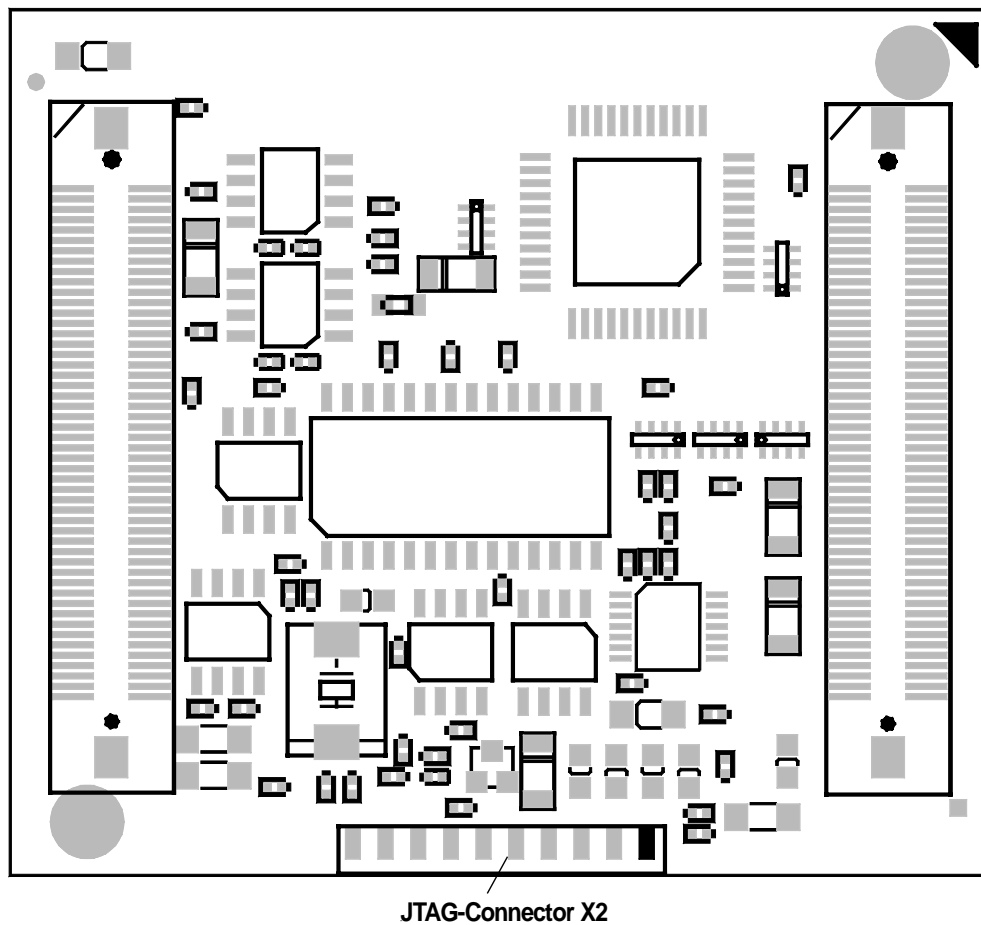

Figure 2: JTAG Connector X2 on the phyCORE-AT91M55800A (Bottom View)
- Connect the PHYTEC JTAG-Emulator Adapter JA-002 adapter to the phyCORE-AT91M55800A module by putting the receptacle connector X3 on JA-002 onto pin header rows X2 on the phyCORE module. Make sure that pin #1 (denoted by the hash stencil mark on the PCB) of X3 on JA-002 is correctly connected to pin #1 on JTAG connector X2 (black pad on the connector side of the PCB, refer to *Figure 2*) of the phyCORE-AT91M55800A.